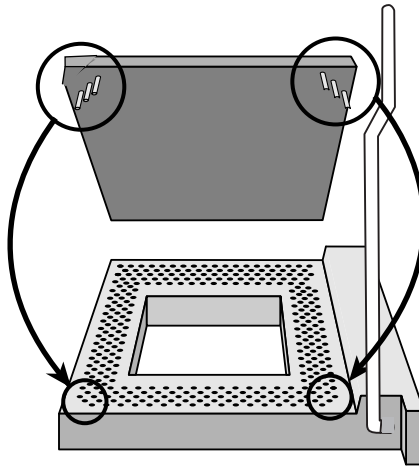

Figure 4. Inserting the Processor Into the Socket
3. Aligning the pins of the processor with the socket, insert the processor into the socket (see Figure 4).